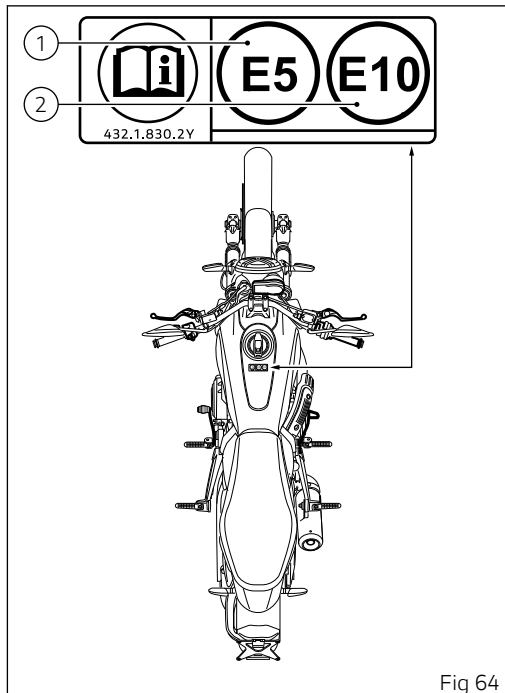

Fig 64
The label in (Fig 64) identifies the fuel recommended for this vehicle.
- 1) The E5 reference inside the label (Fig 64) indicates the use of fuel with a maximum oxygen content of 2.7% by weight and a maximum ethanol content of 5% by volume, according to EN 228.
- 2) The E10 reference inside the label (Fig 64) indicates the use of fuel with a maximum oxygen content of 3.7% by weight and a maximum ethanol content of 10% by volume, according to EN 228.